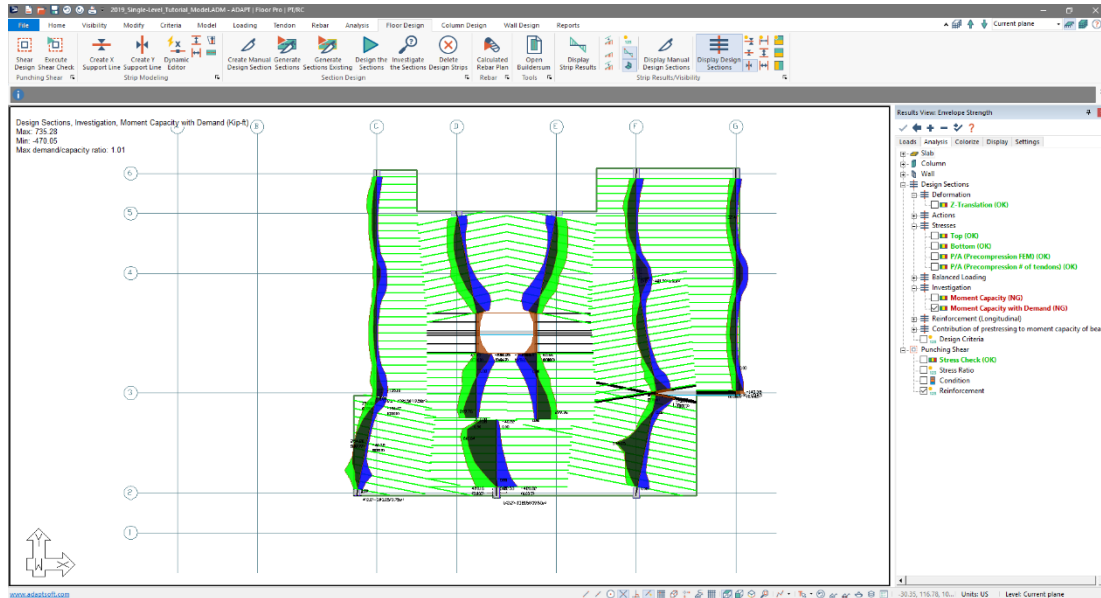

Figure 8-80
- Go to *Floor Design* → *Strip Results/Visibility* click on the *Display/Hide Support Lines in the Y-direction* icon to turn on the support lines in the Y-direction. The user should now see the Moment Capacity Check along the Y-direction support lines as shown in **FIGURE 8-80**.